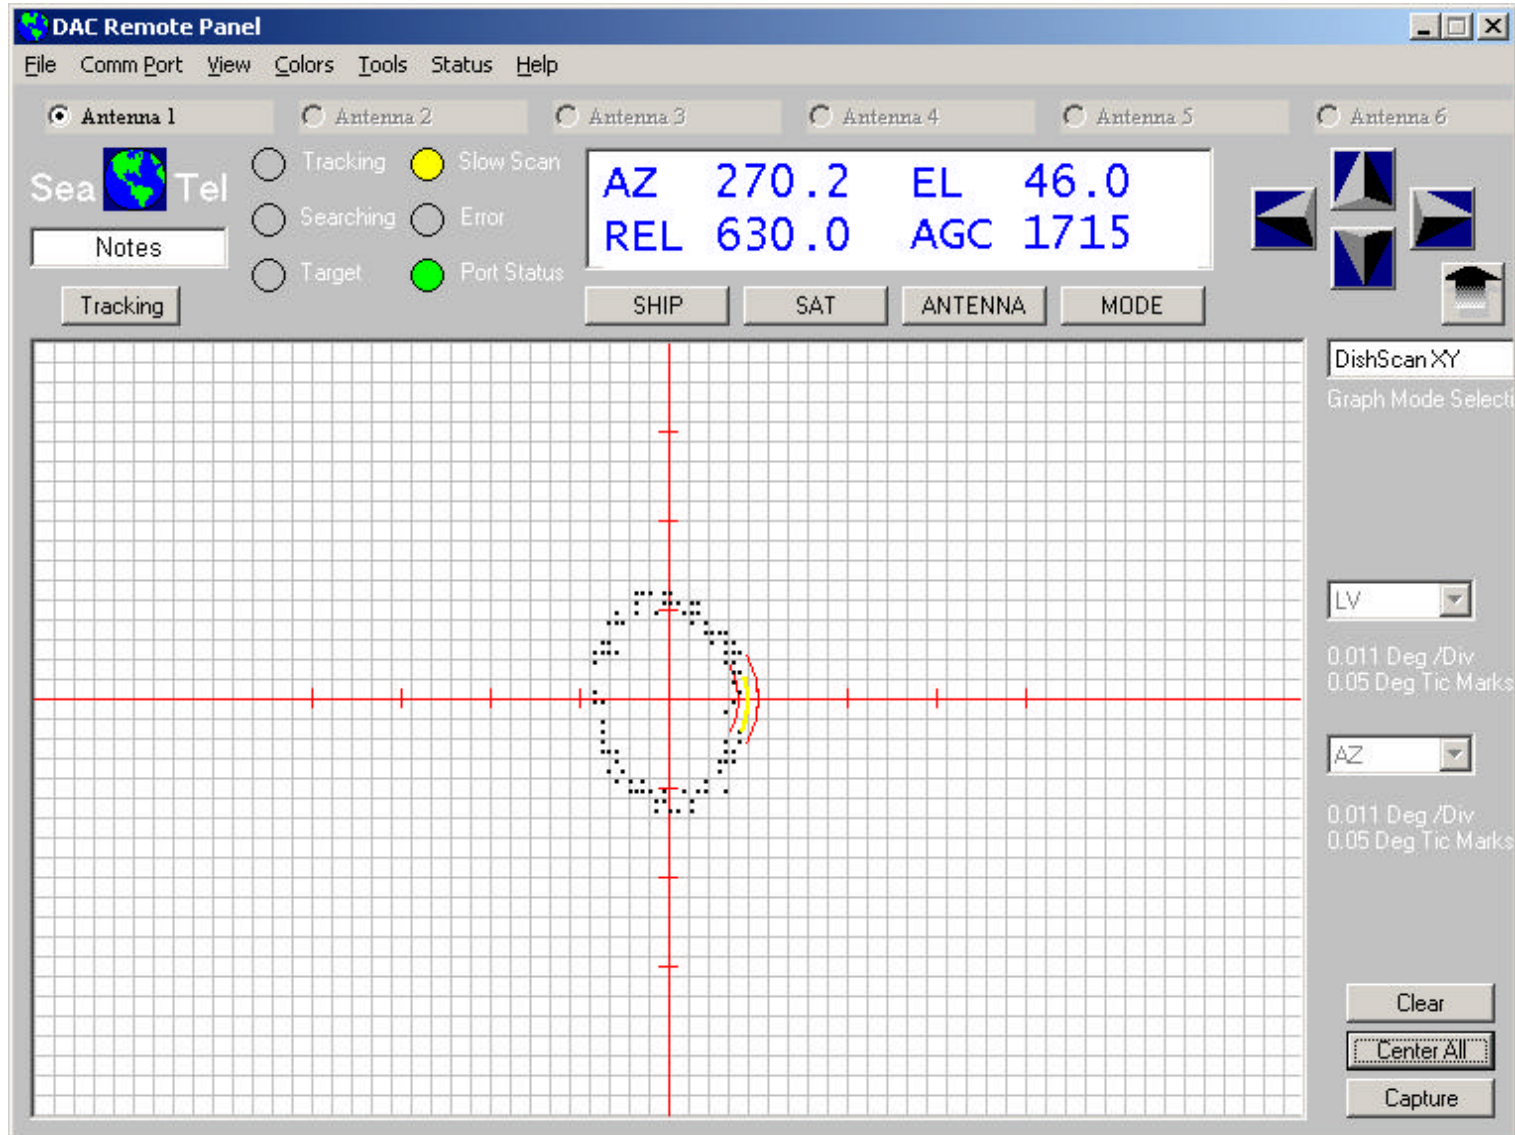

Figure 1
Click the down arrow in the lower right to expand the strip chart graphing tool. If the Port Status indicator is green, you should see a strip chart display of Level (Elevation), Azimuth, of Click on the Graph Mode Selection window and select DishScan XY. Let the program accumulate data points for a few seconds then click the Center All button. A display similar to Figure 1 below should be seen. Note; the colors of the display samples in this document have been altered slightly from the default values to make viewing and printing on white paper more legible.
3. Observe the size of the white circular dot pattern. Compare the Left/Right and Up/Down excursions to the values in table 1. Larger antennas will require less motion, smaller antenna will require more motion. To illustrate this measurement, the dot pattern in Figure 1 is +/- 3.5 divisions Left to Right (from center) and 4.5 divisions (from center) Up and Down. See table 1 for acceptable Amplitudes.